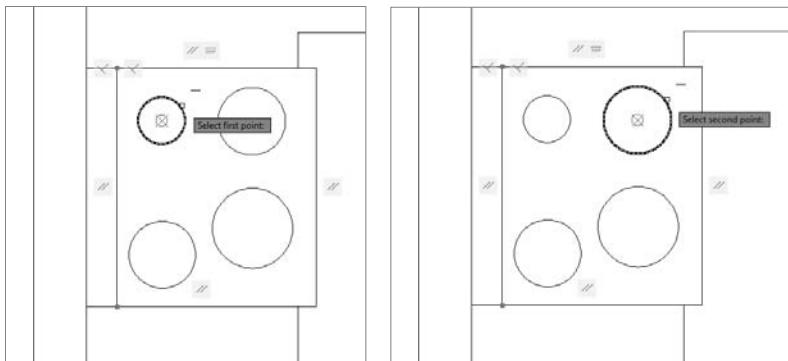

FIGURE 5.53 Using the Horizontal constraint to select the center point of the circle
5. Hover over the top left burner, and select it when a small red circle with an X appears in the center of the circle, as shown in Figure 5.53 left.
6. From the Select second point: prompt, use the same method to select the center point of the top-right burner, as shown in Figure 5.53 right.